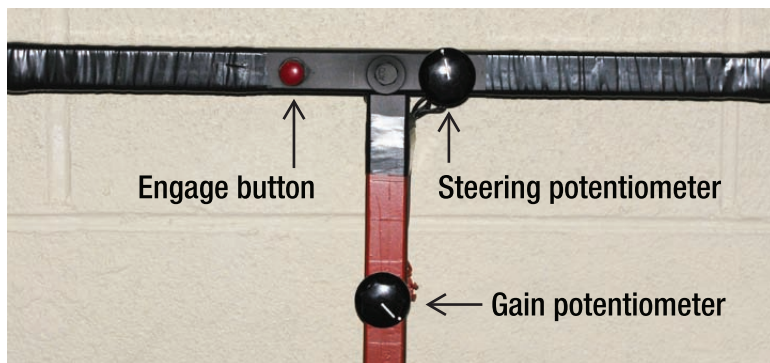

Figure 11-23. The front view of the handlebar with all three input devices visible.
7. Mount the T-handle bar piece to the top of the frame riser bar using a 2.5-inch bolt, as shown in Figure 11-23.
To mount the input controls to the frame, you need a few drill bits and a power drill. Start by taking a look at the finished handlebar in Figure 11-23, showing the Engage button, steering potentiometer, and gain potentiometer mounted into the 1-inch square tube frame.